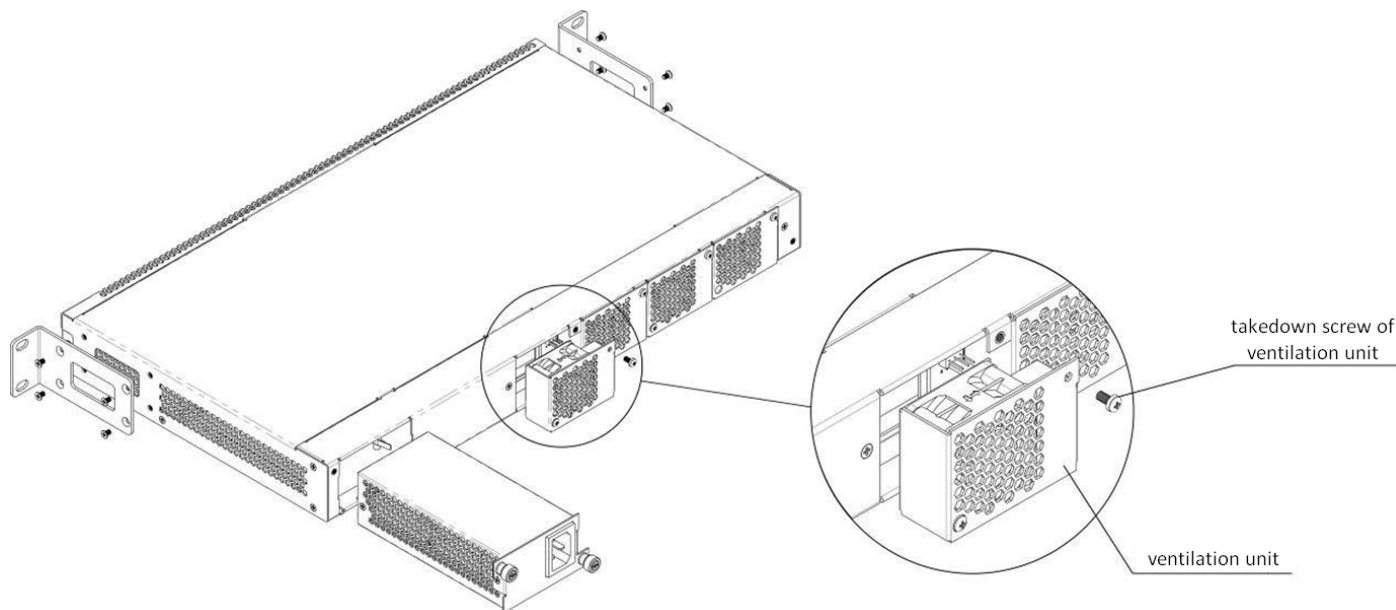

Figure 53 – Ventilation unit. Installation to the case
- **Step 1.** Use a screwdriver to remove the right screw fixing the ventilation unit to the rear panel (see Figure 53).
- **Step 4.** Screw the ventilation unit to the rear panel (see Figure 53).